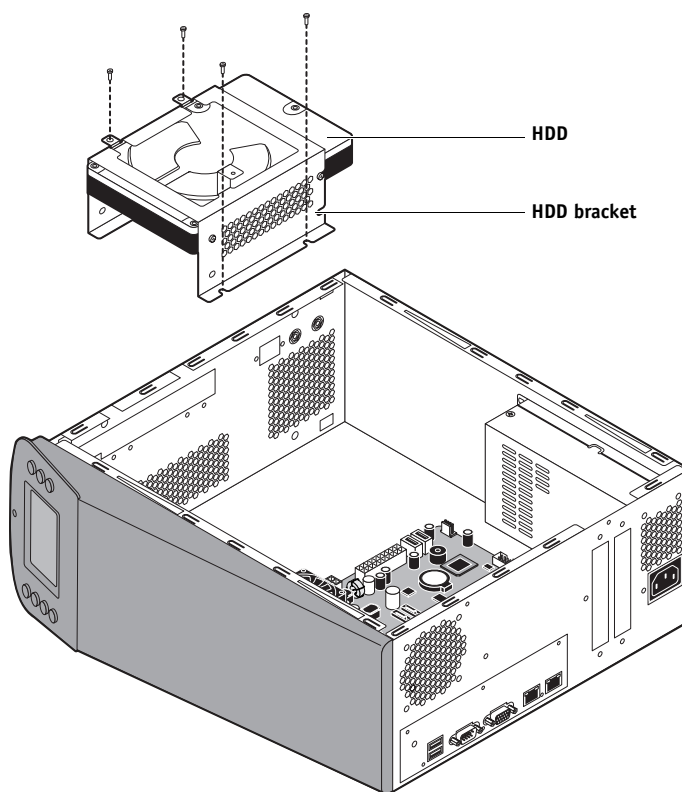

FIGURE 31: Removing/replacing the HDD bracket
7. Lift the HDD bracket out of the chassis (see Figure 31).